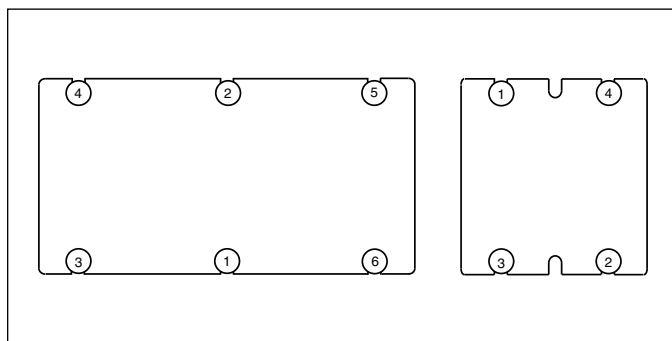

Figure 20-5 — Heat sink torquing sequence VI-200 / VI-J00
- Torque screws to 6 in-lbs (0.7 N-m) per Figure 20-5.